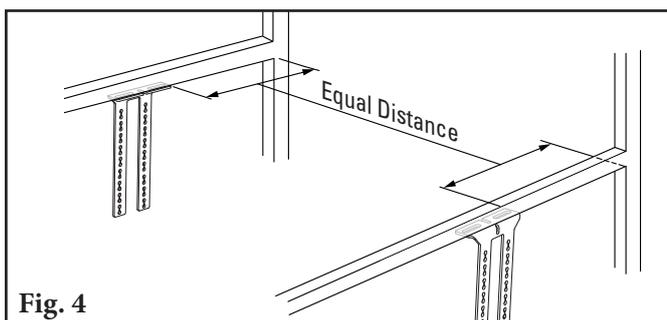

Fig. 4
4. **Square the mounting brackets.** Measure from a fixed location on both sides to ensure alignment (Fig. 4).